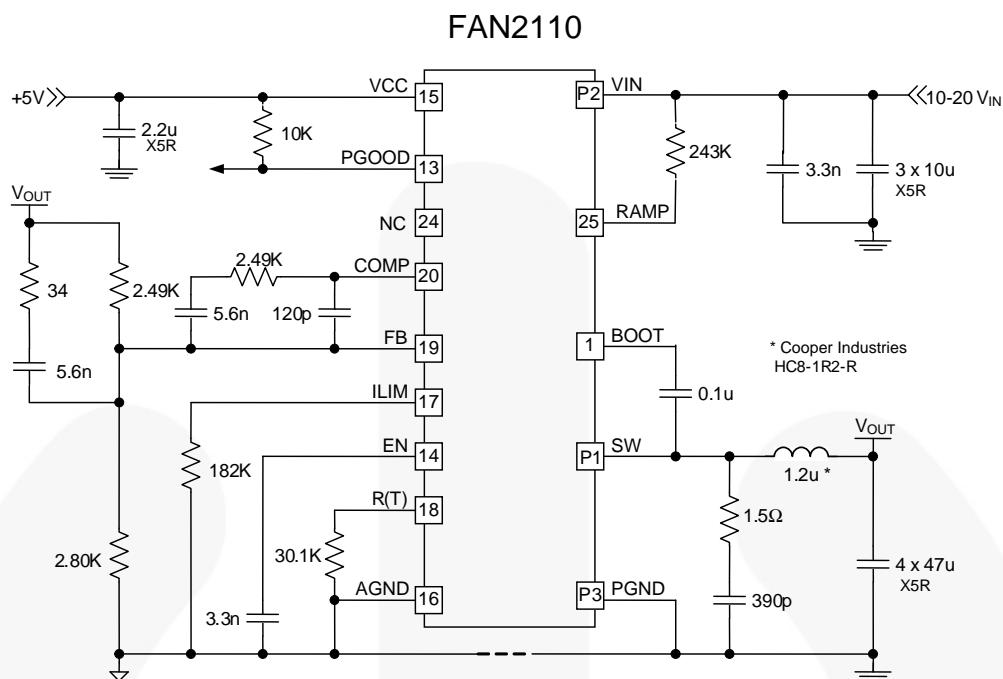

Figure 10. Application Circuit: 1.5 V_{OUT}, 10 A, 500 KHz (10 V-20 V_{IN})
Typical operating characteristics using the circuit in Figure 10. $V_{IN}=12\text{ V}$, $V_{CC}=5\text{ V}$, $T_A=25^\circ\text{C}$, unless otherwise specified.
4. Circuit values for this configuration change in Figure 10.
Typical operating characteristics using the circuit in Figure 10. $V_{IN}=12\text{ V}$, $V_{CC}=5\text{ V}$, $T_A=25^\circ\text{C}$ unless otherwise specified.
5. Circuit values for this configuration change in Figure 10.